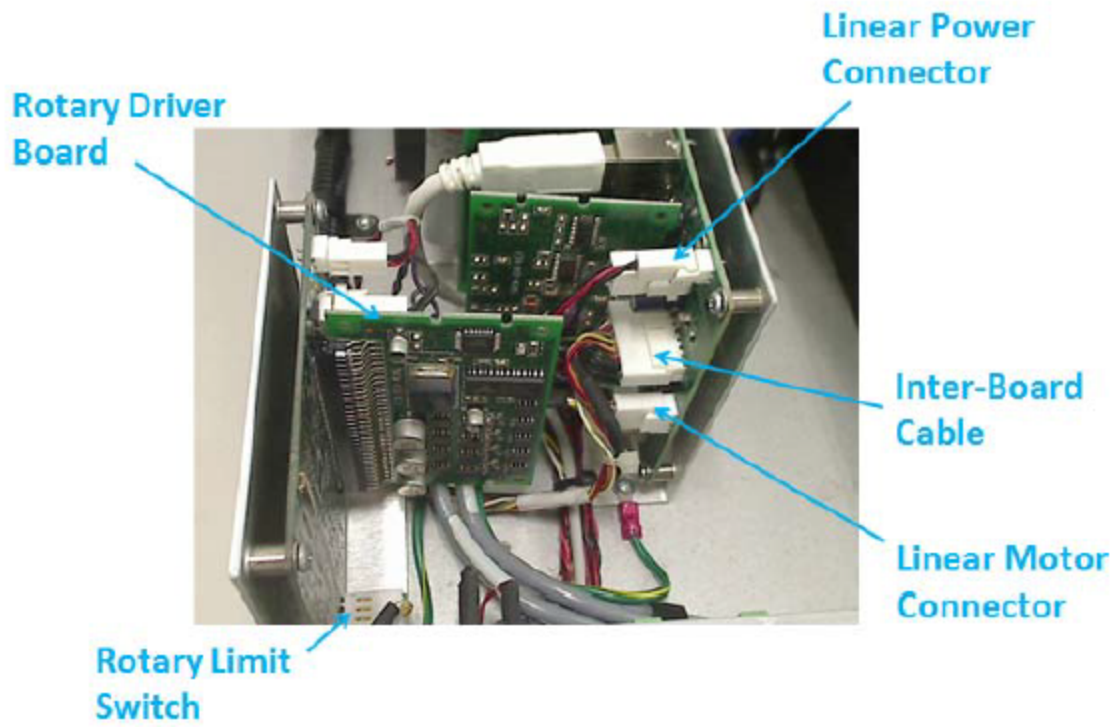

Figure 1
Step 2: Disconnect the power from the system. Remove the top cover by removing the small screws on the sides and lifting the cover up slightly and pulling forward. Are the connectors fully seated into the headers on the board? (See Figures 1, 2, and 3.)
(See Figures 1, 2, and 3.)